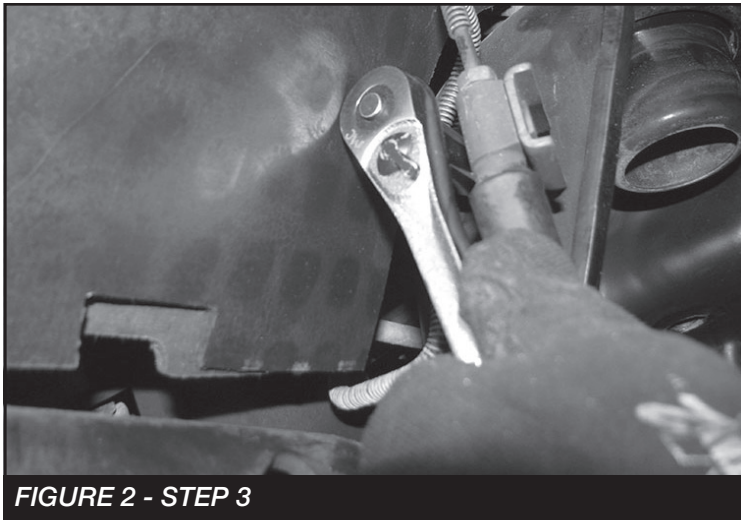
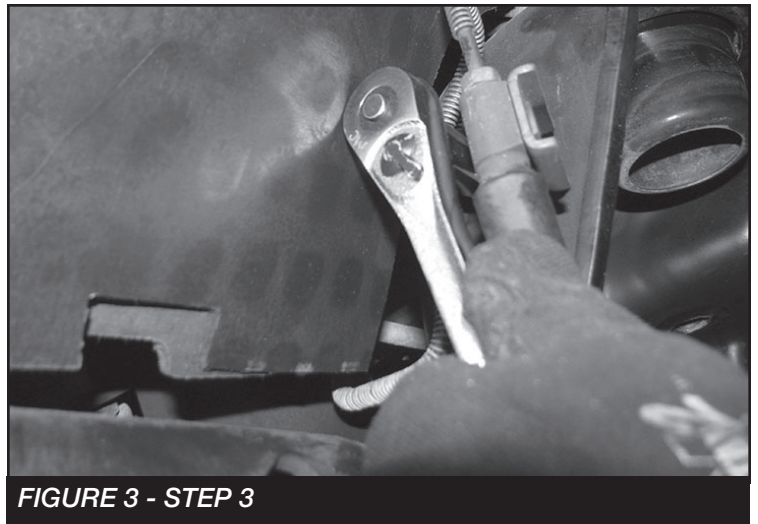

FIGURE 2 - STEP 3
FIGURE 3 - STEP 3
3. Remove the brake line bracket from the frame. For 05-07 models **SEE FIGURE 2**. For 08-10 models **SEE FIGURE 3**.